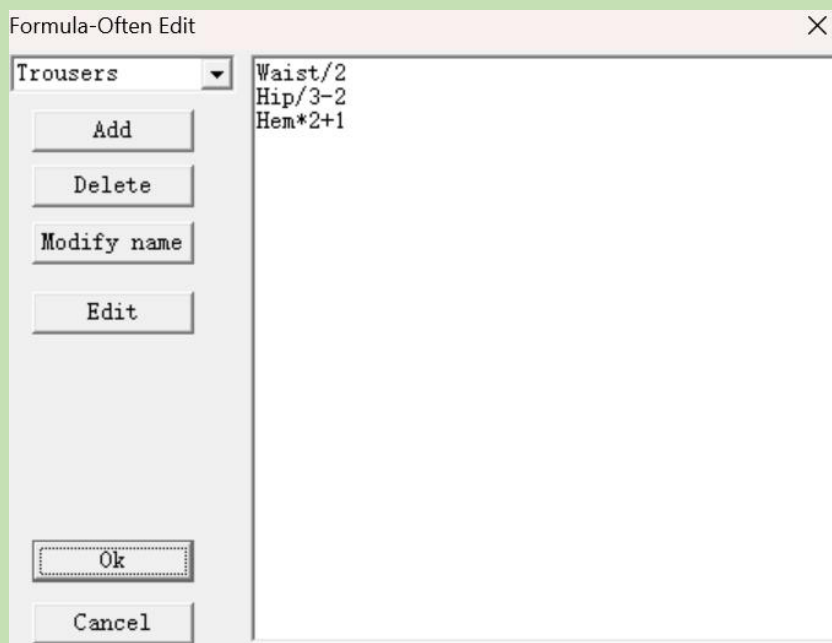

Figure 3-10
14.Common formula: For formula-based pattern making, it can be saved in common formulas for convenient use. **Formula** (Figure3-10)